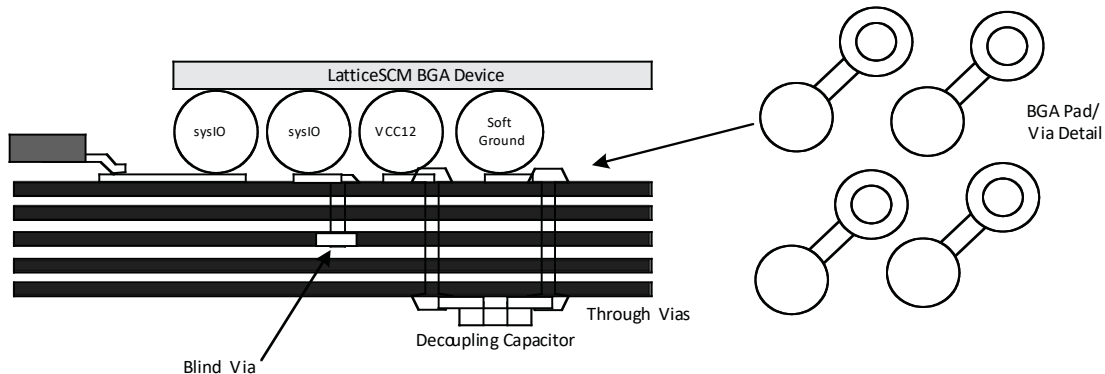

Figure 4.1. PCB Via Stack Up Detail for LatticeSCM
- Blind-vias are better than through-hole vias for making connection to the I/O. This limits the amount of coupling between vias. If through-hole vias are required, place high frequency decoupling capacitors directly beneath the device adjacent to the V_{CC12} power via as shown in Figure 4.1 in the example for LatticeSCM.
In Figure 4.1, coupling is caused by the mutual inductance occurring in the area between the I/O signal path and the V_{CC12} via. Blinding the signal via and reducing the stub minimizes the capacitive coupling effect. Following recommendations designed to minimize this effect reduces the coupling. I/O pins having close proximity to the V_{CC12} pins vary in different packages and packaging variations also influences noise immunity. The issues related to these locations are due to the way the pins escape or route away from the device. Determining the best escape route from the device's BGA field is critical to minimizing the effects of coupled noise on the board.